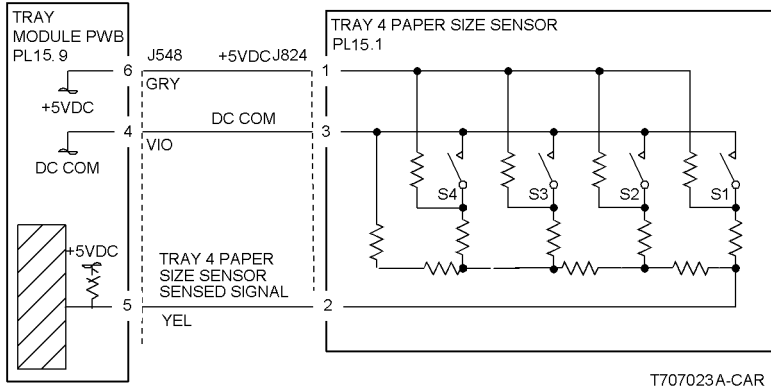

Figure 1 7-273 RAP Circuit Diagram - Tray 4 Paper Size Sensing
Check the wires from P/J548 to P/J824 (Figure 1) for damage. Repair or replace as required.
- Ensure that the connectors shown in the circuit diagram (Figure 1) are securely connected and that the wires are not damaged.